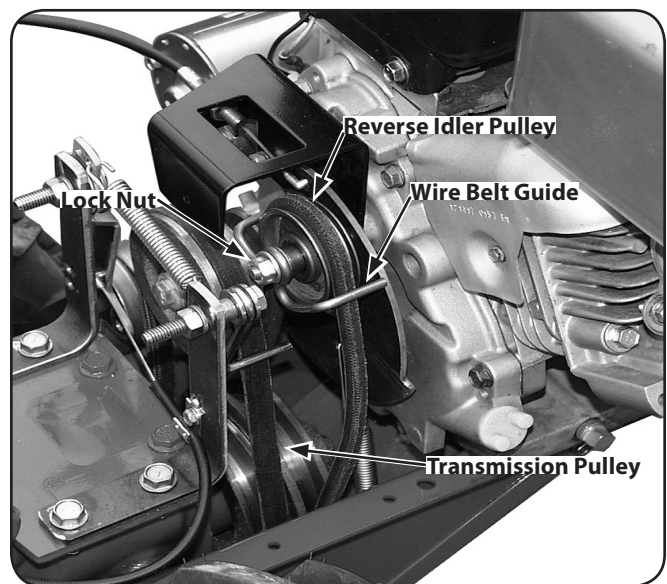

Figure 7-6
3. Pull the reverse clutch belt downward and slip it off the transmission pulley. See Figure 7-6.